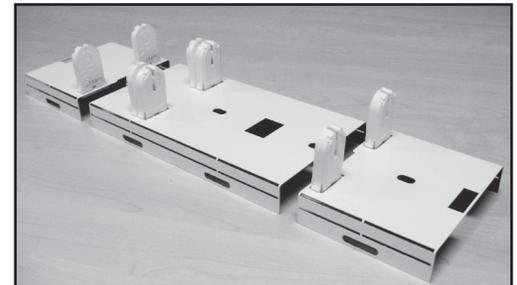

Figure 2. Bend the flexible tabs on the Retrofit Socket Plate 90 Degrees.
6. Bend the flexible tabs of all three sections of the Retrofit Socket Plate approximately 90 degrees. See Figure 2.